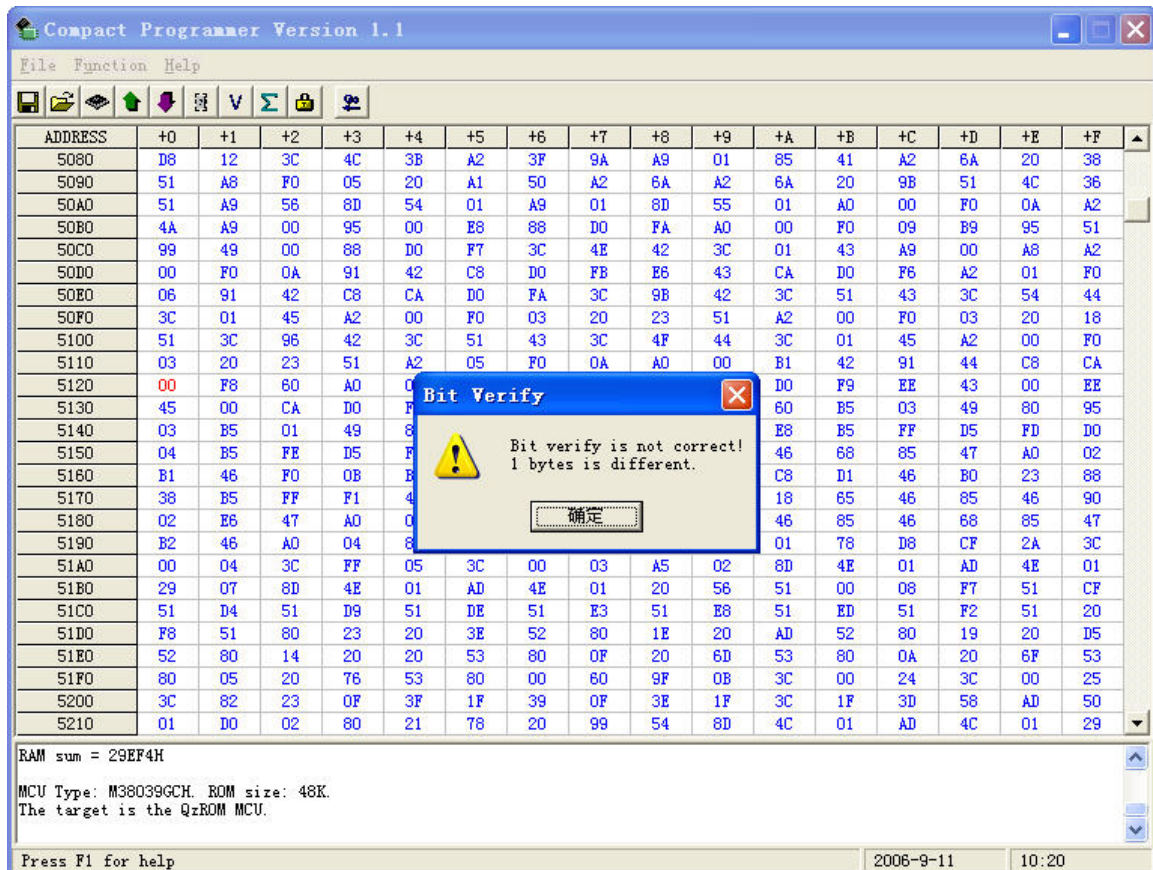

Figure 6-9: Bit Verify is not Correct
- Bit Verify is not correct: The check result will be shown in the message window. We can find the number of the error bytes. The different bytes will redisplay original data in red (refer to Figure 6-9).